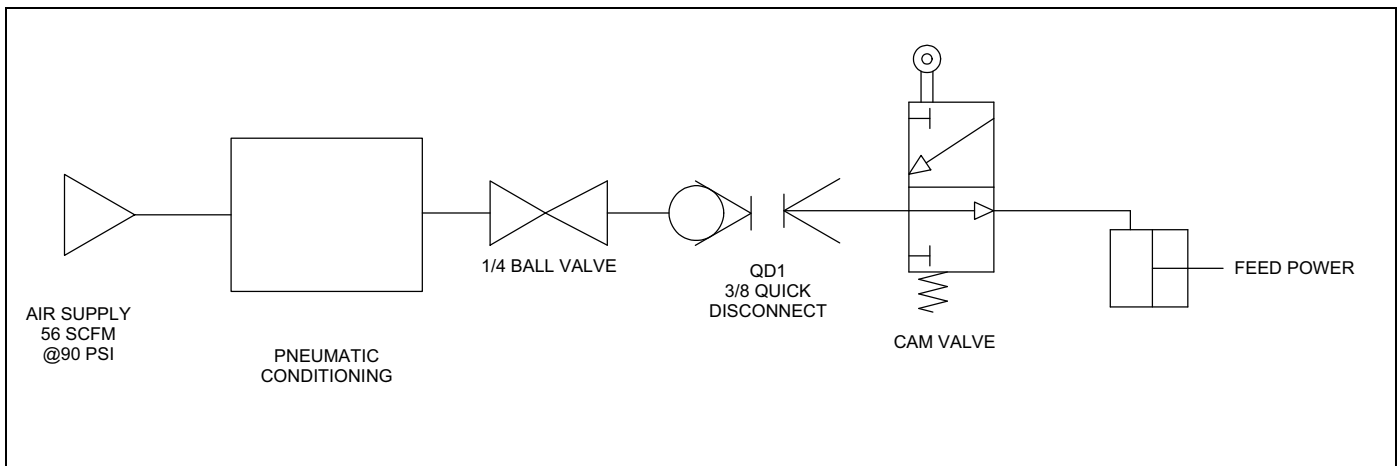

FIGURE B-2. P/N 87941 SCHÉMA DE L'ENSEMBLE POUR AVANCE PNEUMATIQUE UNIQUEMENT (UTILISÉE AVEC DES MACHINES HYDRAULIQUES)
- FIGURE B-2. P/N 87941 SCHÉMA DE L'ENSEMBLE POUR AVANCE PNEUMATIQUE UNIQUEMENT (UTILISÉE AVEC DES MACHINES HYDRAULIQUES) 115